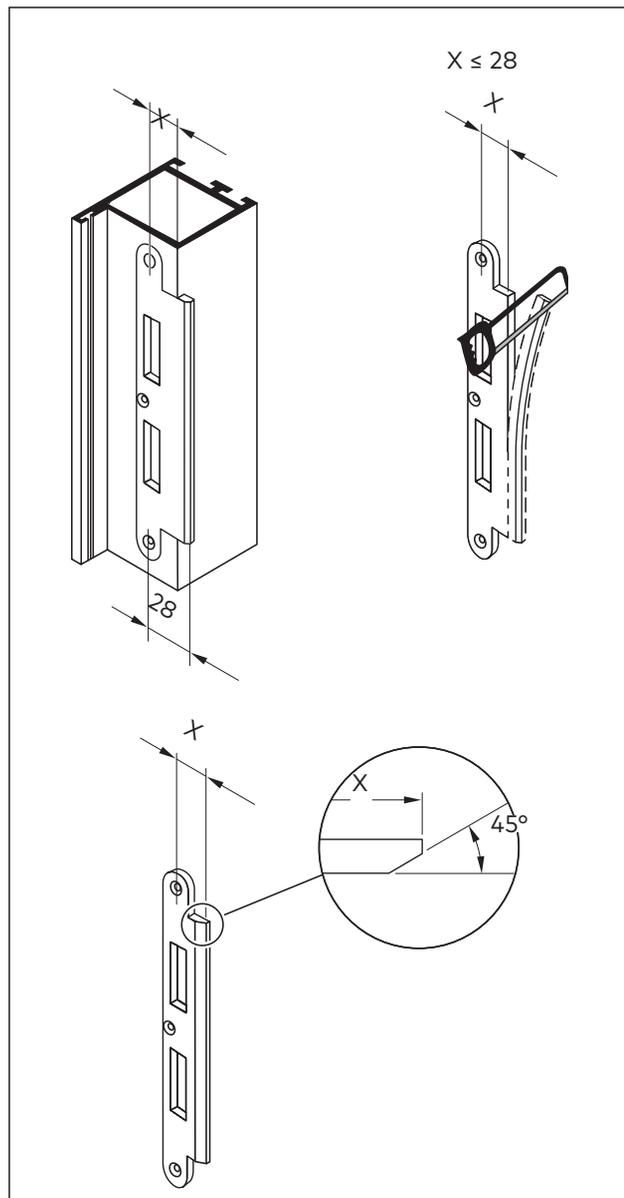

Fig. 19 Dimensions of the adjustments
5. Adjust the striking plate (Fig. 19).